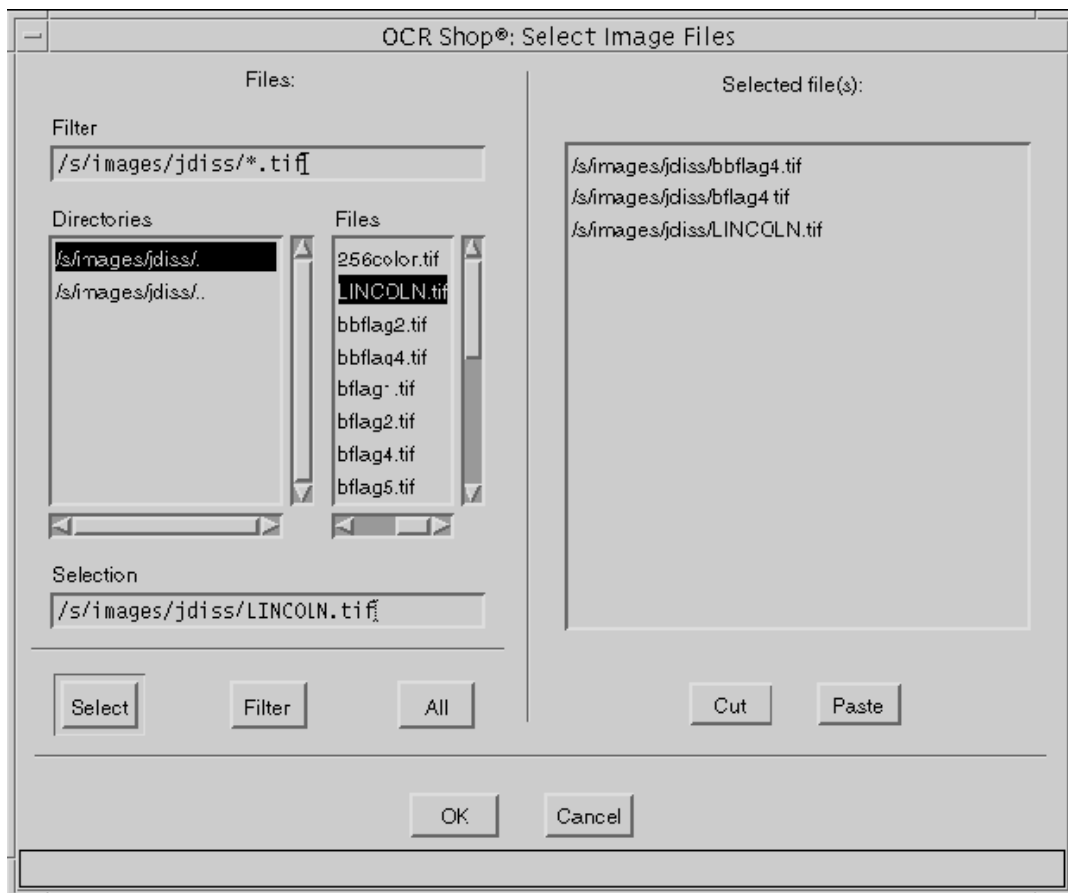

Figure 4-8 Select Image Files
2. Select File(s)... as the image source to load the images from the Batch Scan tutorial. The Select Image Files window will appear, see Figure 4-8.